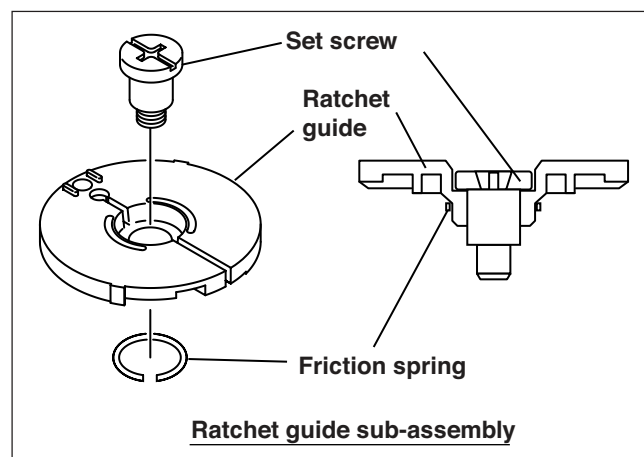

Fig. 13-6
- 2 Mount the ratchet guide assembly, taking care not to move the ratchet. (Fig.13-6)